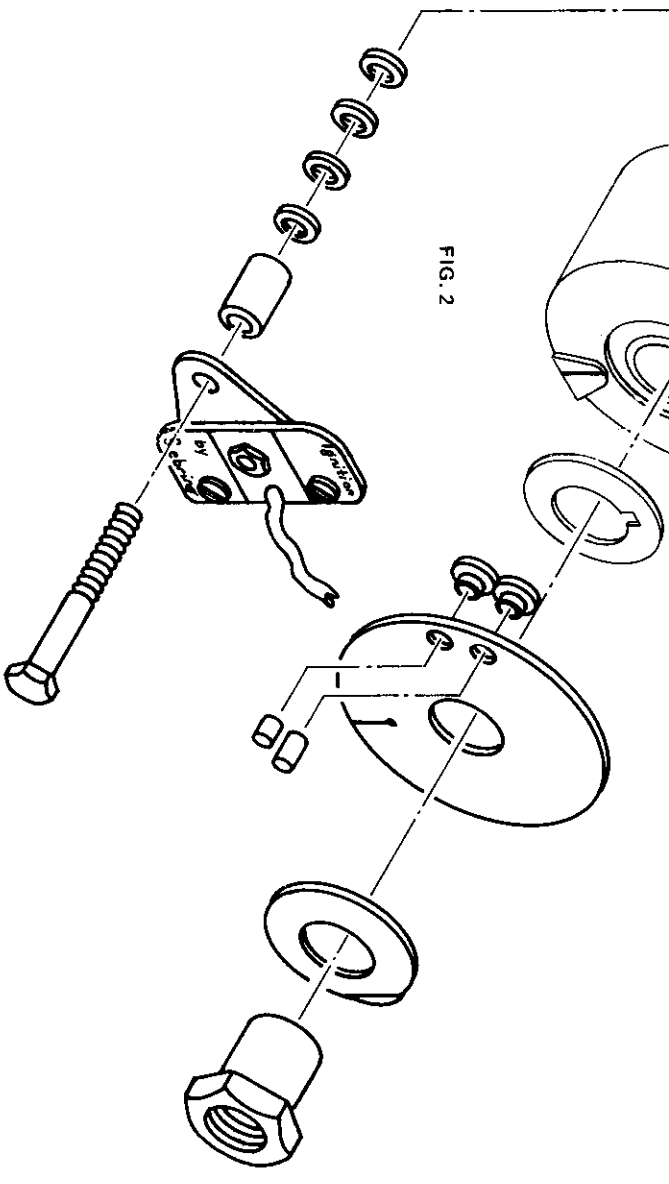

FIG. 2
- 4.0 Place the Spacer Washer, the Timing Disc, (special required for Nortons), with plastic bushing in place and the rotor nut on the mainshaft. The rotor nut should fit closely into the Timing Disc center hole. If the nut does not fit, then obtain a new one from your local Triumph - Norton dealer. Tighten the nut just enough to hold the Timing Disc loosely in place against the face of the rotor. (Ref. assy. dwg. Fig. 2)
- 8.0 Insert the Timing Pins into the holes drilled in the rotor face. The short pin is to be installed in the most counter clockwise hole for all applications. The pins should slip easily into place and be in contact with the magnet. Place the plastic shoulder bushings onto the face of the Timing Disc. Place the rotor nut through the washer and disc and hang the Spacer Washer on the back of the Timing Disc. Mount this assembly onto the rotor and then position the Timing Disc so that the Timing Pins and Plastic Bushings fit into the proper holes. Tighten the rotor nut. (Ref. assy. dwg.). Fig. 2